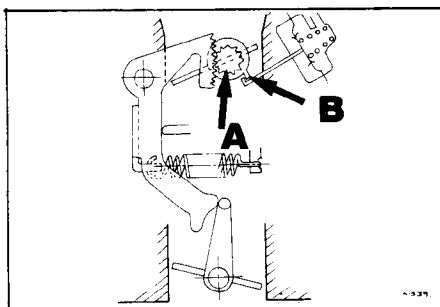
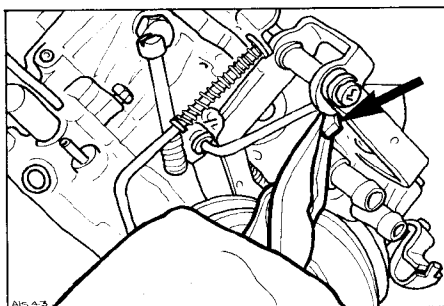

Fig. 4 Auto choke mechanism
Fig. 8 Adjusting choke breaker
- With engine running, fully close choke valve by turning shaft lever (A, Fig. 4). Note engine speed.
- If necessary adjust clearance by bending choke shaft operating lever (B, Fig. 4) using pliers (Fig. 8).